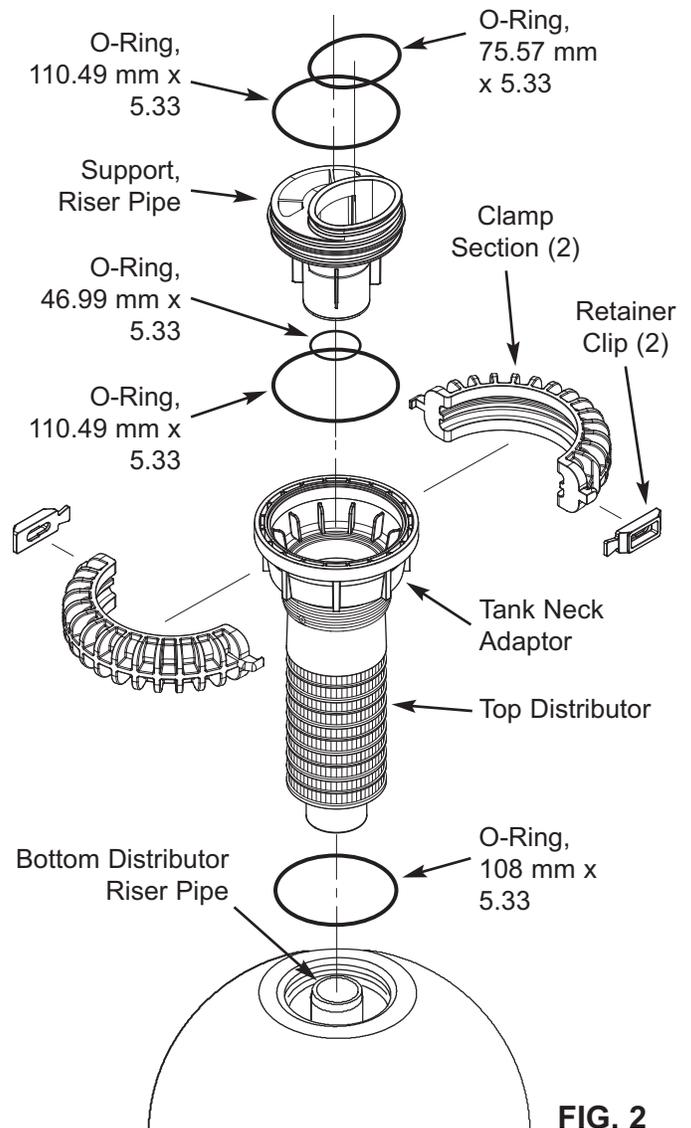

FIG. 2
9. From the valve parts kit, obtain the assembled tank neck adaptor and top distributor. Locate the 108 mm O.D. o-ring seal. Lubricate the o-ring and place in the groove at the bottom of the tank neck adaptor (Figure 2).
11. Referring to Figure 2, do the following:
12. Lower the valve assembly onto the tank neck adaptor and support it in place (Figures 2 and 3). The valve must be lowered straight down or the o-rings will slip out of place. Install the two large clamp halves, securing with the two retainer clips. **Be sure the clamps and retainers are secured in place.**